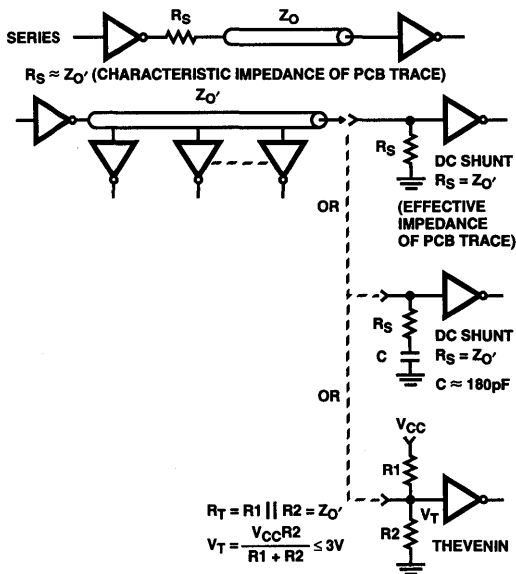

FIGURE 31. METHODS OF TERMINATION
3. Terminate Interconnects More than Six Inches in Length - VME, Multibus II, and other bus standards specify adequate Thevenin termination. Interconnects within a PCB may not need to be terminated but should be if they are six inches or more in length. This avoids reflection problems and also avoids crosstalk problems should two parallel PCB traces run alongside each other for six inches or more. A termination also keeps ground bounce noise glitches from increasing in amplitude much over 1.25V, thereby preventing these glitches from false triggering inputs. Terminations may be series, shunt, or Thevenin (See Figure 31).